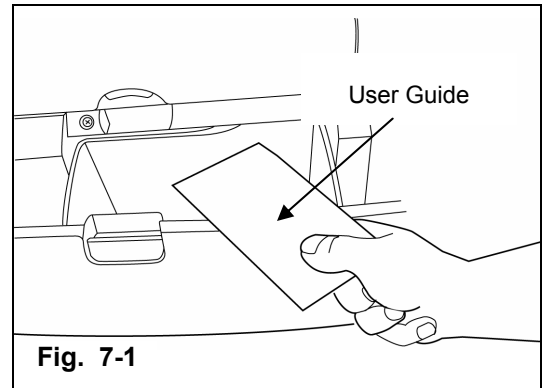

Fig. 7-1
3. Place User Guide in vehicle glove-box. (Fig. 7-1)